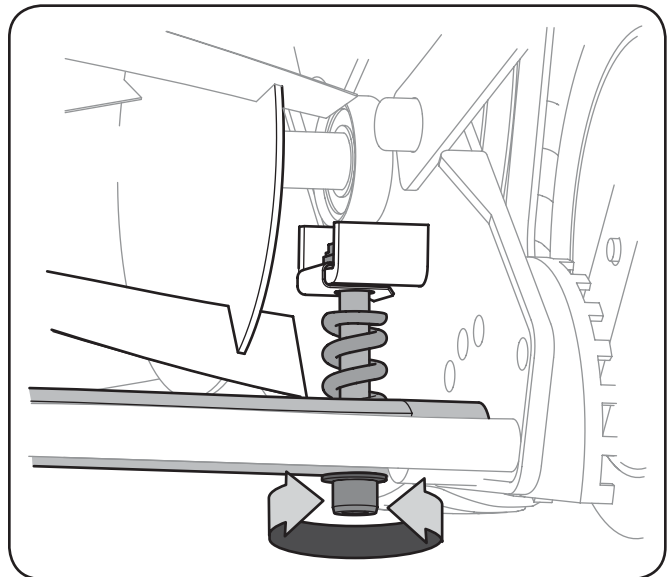

Figure 5-1
2. Using a 13mm wrench, tighten the adjustment bolts (one on each end) 1/4-turn. See Fig. 5-1.